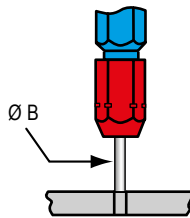

Fig. 2
**"NO GO"** - Insert the end (red) of the gauge as shown (Fig. 2).